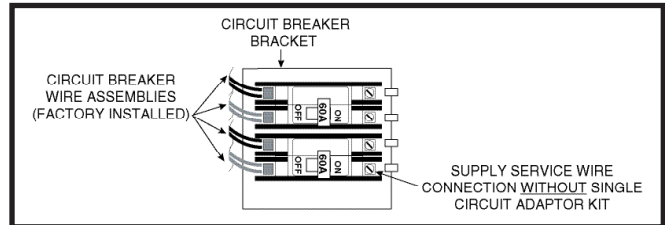
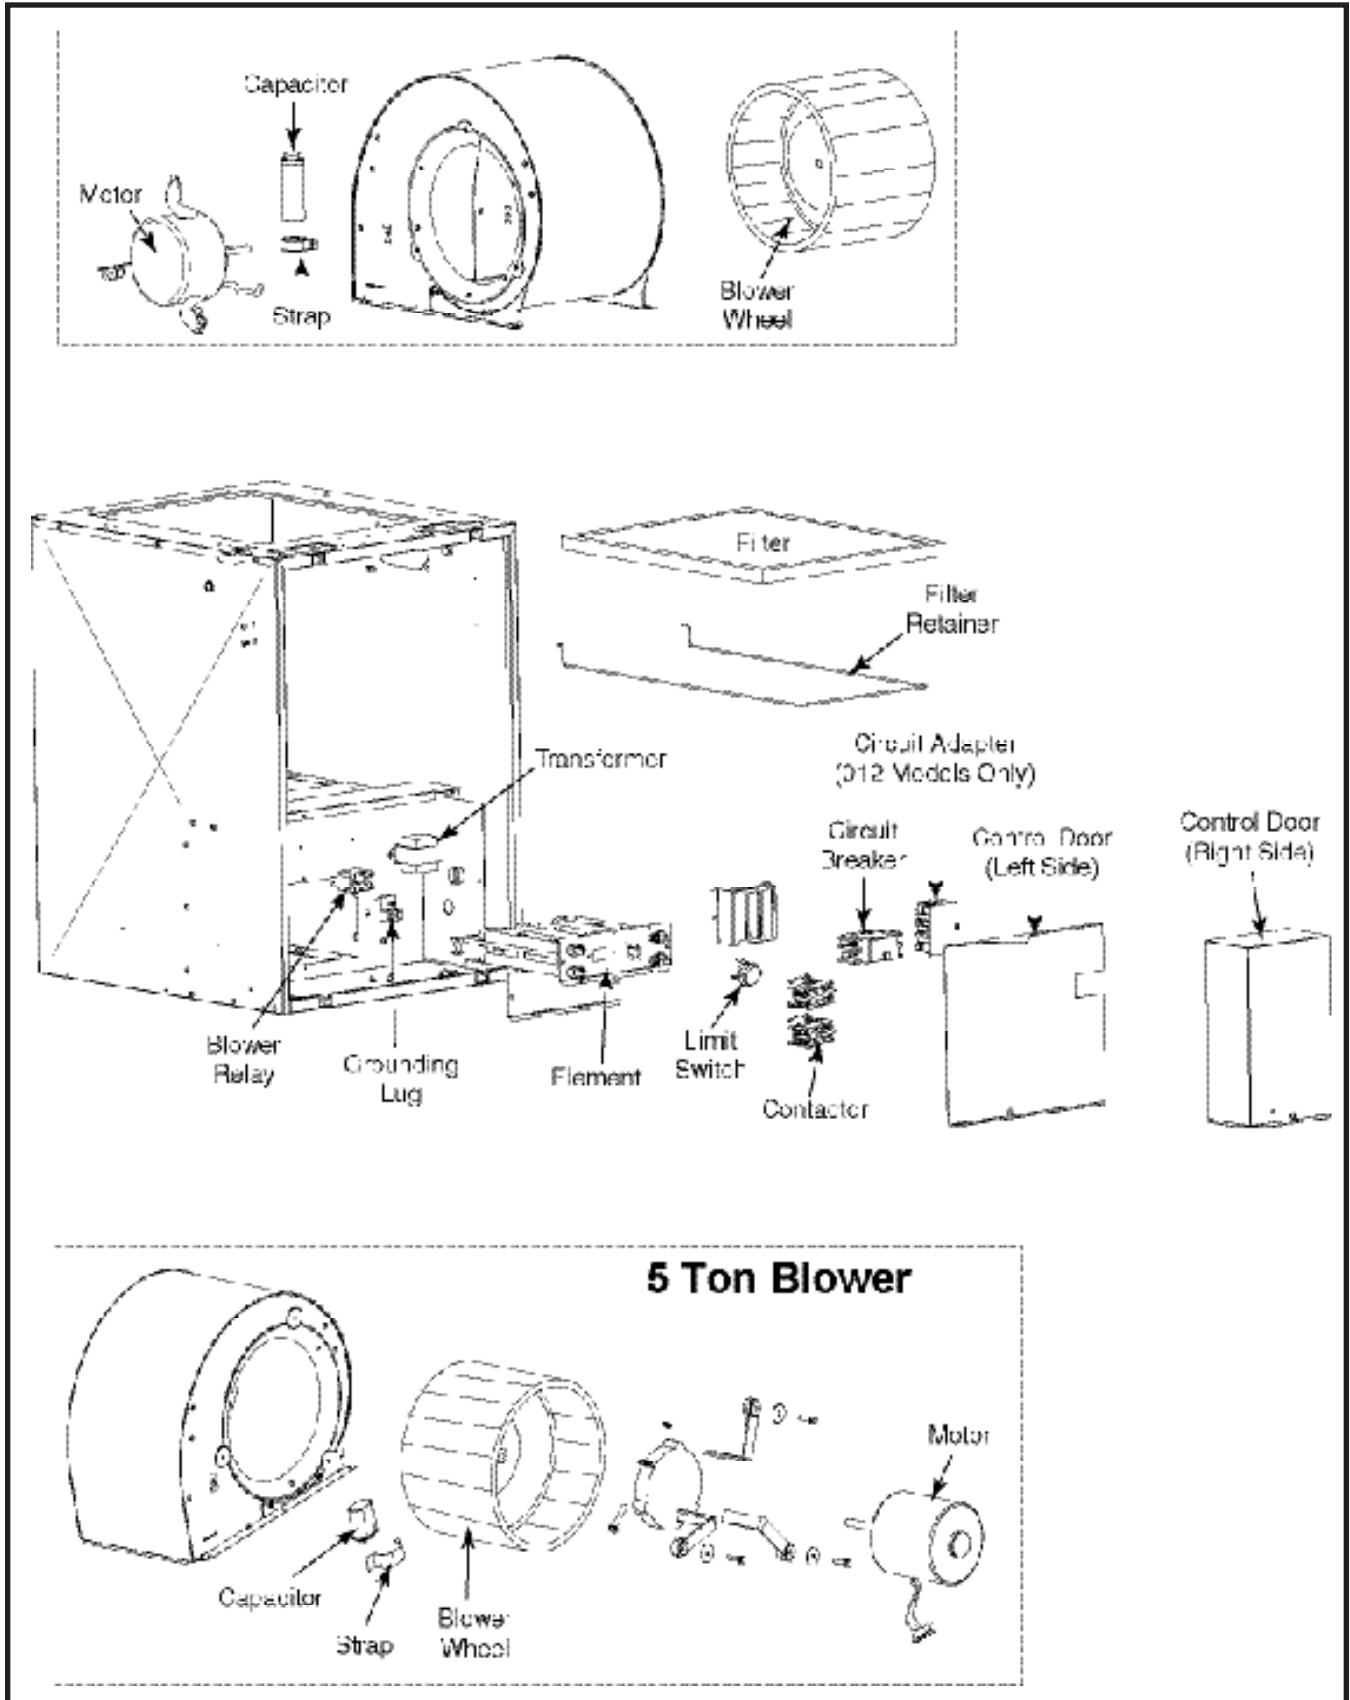

Figure 17. Installation of Supply Service Wires
Figure 18. E3 Furnace Components
- -012 models are factory-wired for single-branch supply circuit (single-circuit kit factory installed). Dual-branch circuit can be used by removing factory-installed single-circuit kit. See Figure 17.
4. Insert supply service wire(s) through cable connector(s) and connect wires to circuit breakers (Figure 17 & Figure 18). **NOTE:** To install single-circuit kit, perform step 5. If single-circuit kit installation is not needed, go to step 6.